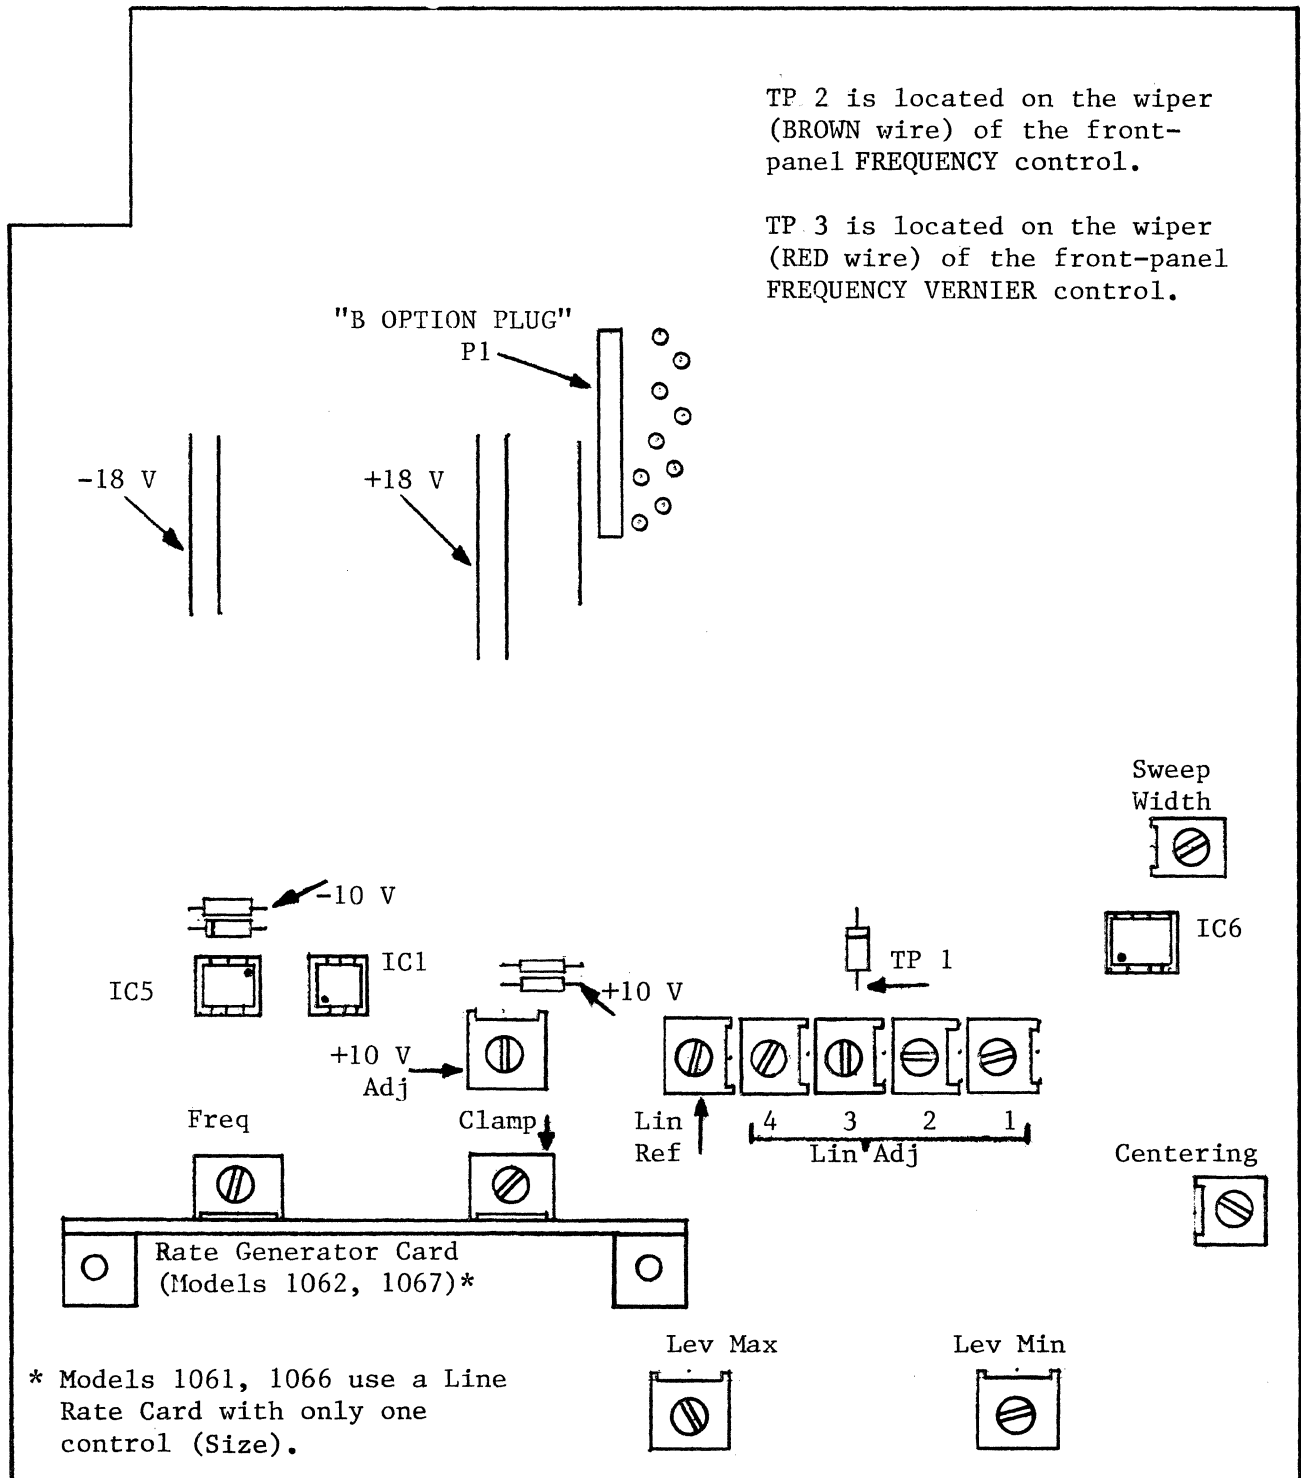

Figure 4-5. 1060 Series Control And Test Point Locations
*If calibration becomes necessary, remove the cabinet as instructed in Section 4.2.1. With the unit cover removed, all adjustments are accessible. Refer to Figure 4-5 for adjustments and test points.*
*If the instrument does not meet specifications according to above checks, the following calibration should be performed. Refer to Figure 4-5 for control and test point locations mentioned in the following procedure.*